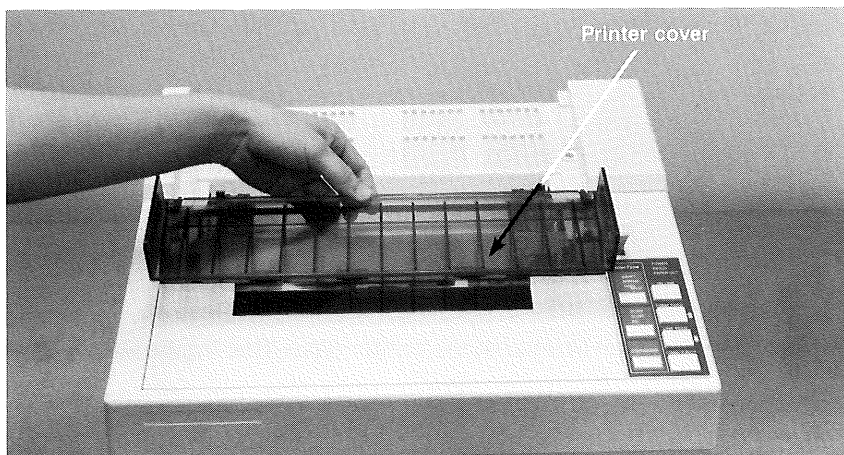

Figure B1.
2. Fold the back of the printer cover forward. Lift up on the cover to remove. See Figure B1.